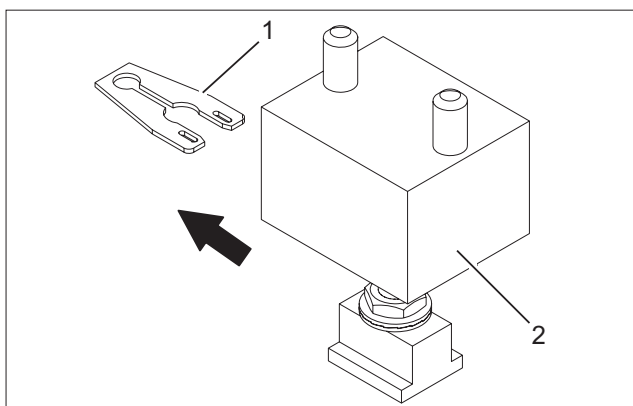

Fig. 14 Removing the washer
- Remove the washer (Fig. 14/1) from the upper (Fig. 14/2) pivot bearing.